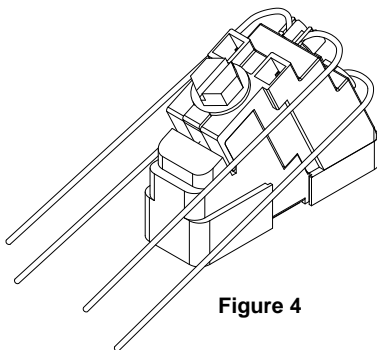

Figure 4
5.1.1 Feeder and subscriber wires must be segregated between the upper and lower ports to facilitate isolation testing (see Figure 4).